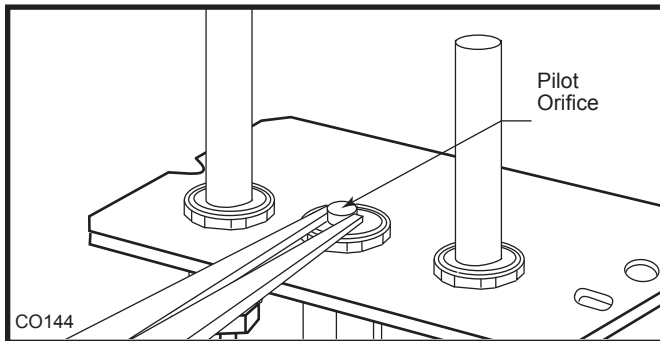

Fig. 12 Remove pilot orifice.
- Remove pilot orifice with needlenose pliers. (Fig. 12) **NOTE:** Use a wrench to hold pilot tube in place while removing the orifice.